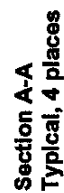
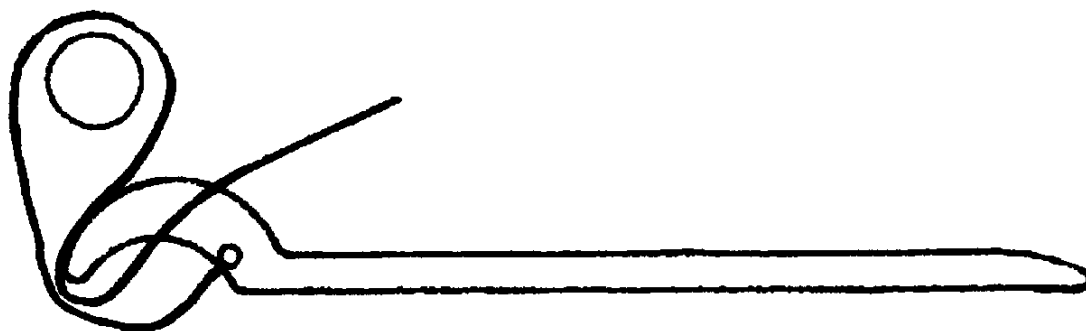

Figure 1
Figure 5
To remove the left side interphase shaft 10204 (Fig. 1):
7. Punch out the roll pin 10209 (Fig. 1) from the coupling 10205. Slide the coupling onto the interphase shaft and lift the crank and shaft away.
1. Slide the manual open/close tool T13451 (Fig. 7) onto the splines of the bellcrank shaft 10156 (left), 10157 (center), or 10156 (right) (Fig. 1).
To re-install the right side interphase shaft 10204 (Fig. 1):
To re-install the left side interphase shaft 10204 (Fig. 1):
5. Tap the roll pin 10209 (Fig. 1) into the coupling 10205.
8. Re-install the cover 10208 (Fig. 1).
1. Remove the left side shaft cover 10202 (Fig. 1) by unfastening the four M5 socket head bolts H420A31306.
5. Strap the slow open/close device T13444 (Fig. 5) around the interphase shaft 10204 (Fig. 1). Refer to Plate 2.
10. Re-install the cover 10208 (Fig. 1).